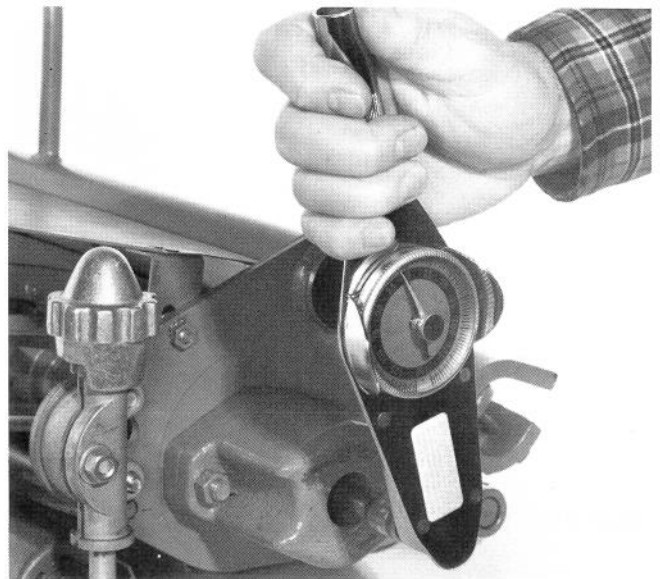

Figure 12
2. The reel bearing drag should be from 10 to 20 inch pounds (1.13 to 2.26 N•m). This can be measured with a torque wrench (Fig. 12).